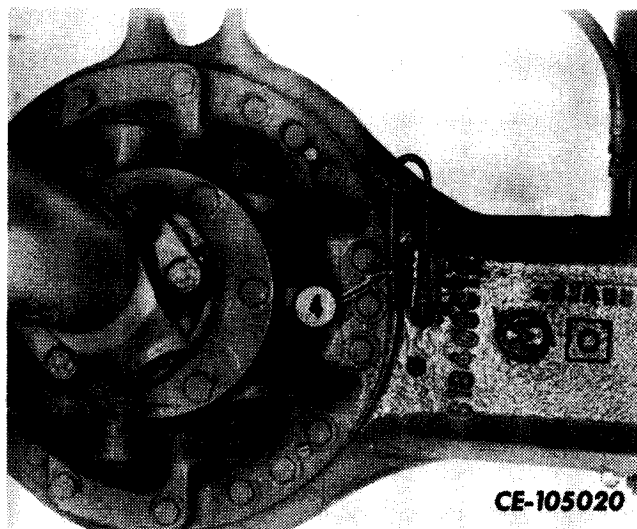

Fig. 4
4. Keep the front and the rear differential vent tubes and front axle convel joint vent tubes (if equipped) (rear differential shown in Fig. 4) free of any obstruction.